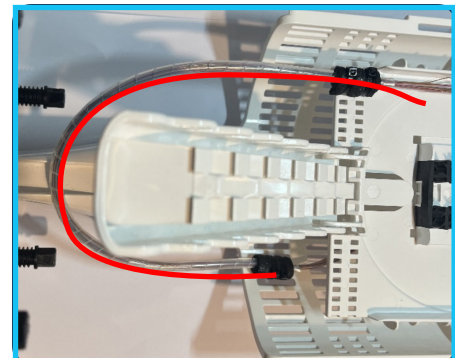

Figure 14.1
1. Pass the spiral wrap around the back of the splice tray stack [\[figure 14.1\]](#).